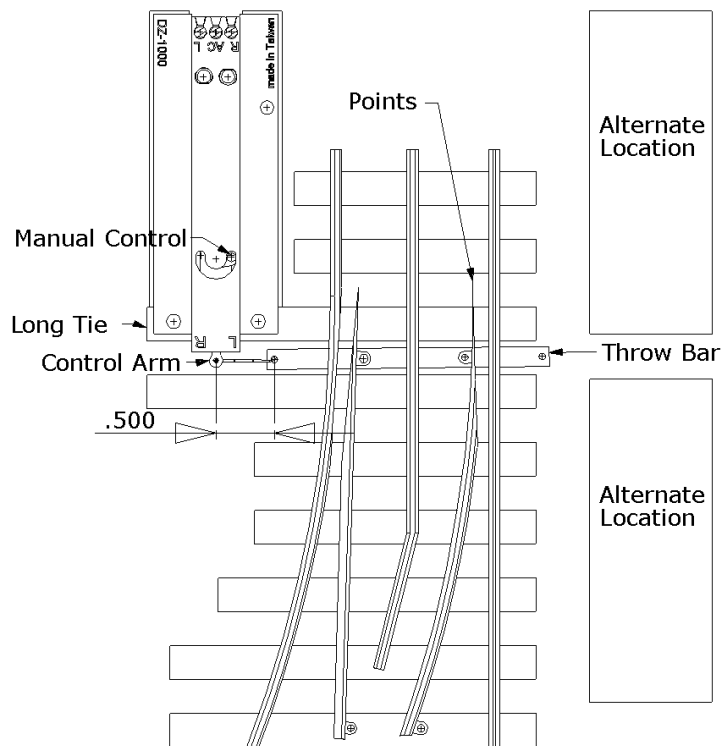

Figure 1
This switch machine is made for most O, S, and Standard Gauge switches that have about 0.3" of motion at their throw bar and operate on AC voltage. It can be easily wired for Automatic Non-derailing operation. Right or left hand turnouts or switches are readily accommodated. The switch machine may be mounted in alternate locations. (Figure 1)
1. Location of DZ-1000 – (If your switch has pre-drilled holes for DZ-1000, skip to #2) Use the manual control on the DZ-1000 to position the control arm in the center of its travel. Move the switch throw bar so that the switch's points are centered. Position the DZ-1000 next to the switch so that the hole in the control arm is in line with the hole in the throw bar. For **GarGraves** switches, the distance from the hole in the DZ-1000 control arm to the hole in the throw bar is $\frac{1}{2}$ ". Use the holes in the DZ-1000 as guides to drill two (2) $\frac{1}{16}$ " holes into the long tie. When mounting to the table, if you use roadbed under your switch, you should use it under the DZ-1000. Drill two holes, one at the lever and for the second hole use the hole in the middle of DZ-1000. (Figure 1)